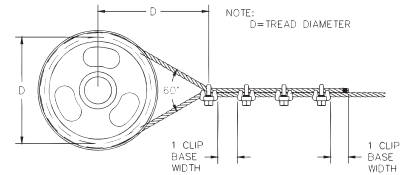

Figure 4
4. If a pulley (sheave) is used in place of a thimble, add one additional clip. Clip spacing should be as shown. (See Figure 4)
If a pulley (sheave) is used for turning back the wire rope, add one additional clip. See Figure 4.